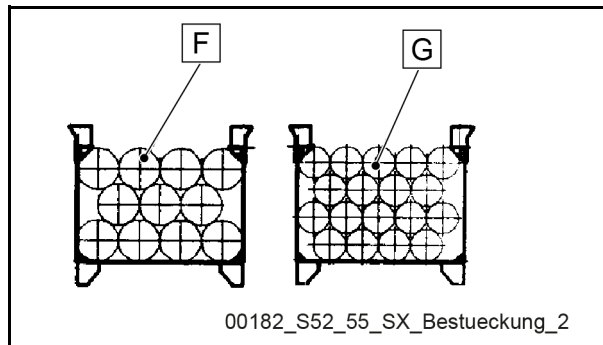

Fig. 485 Mounting 5.1 m stowing boxes
6.6.2.2 Mounting 5.1 m stowing boxes (Fig. 485)